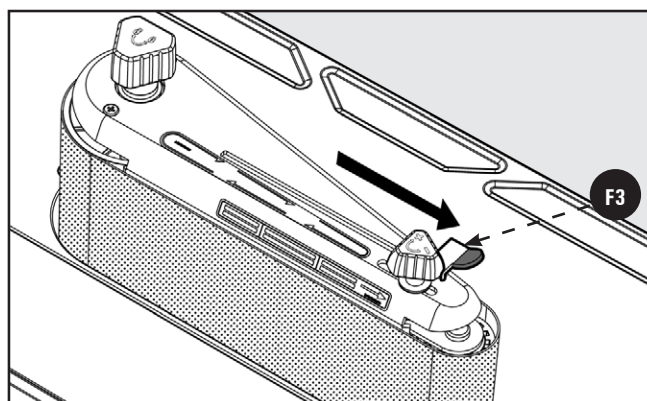

FIGURE 11
3. Slide the tension lever to the right to apply belt tension. See Figure 11.